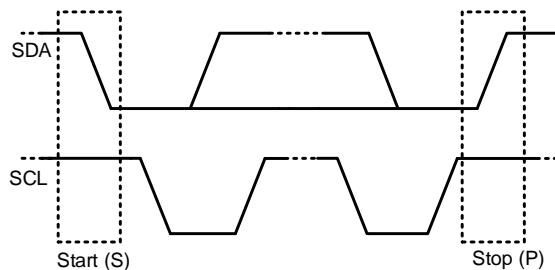

Figure 8: Start and Stop Conditions
All transactions begin with a start (S) condition and are terminated by a stop (P) condition. The start and stop conditions are always generated by the master. A high to low transition on the SDA line while SCL is high defines a start condition. A low to high transition on the SDA line when SCL is high defines a stop condition (see Figure 8).